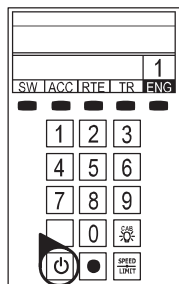

Figure 9. LEGACY start-up
7. **Press the Start Up key on your LEGACY CAB-2 Remote, shown in Figure 9. Then, let the countdown begin!** Your rocket launcher's sound will start up, and the accessory-specific touch screen buttons will populate the remote. For more information on operating your accessory with the LEGACY system, please refer to the LEGACY section of this manual. Additional information is also found in the LEGACY System Manual, available online at [www.lionel.com](http://www.lionel.com).